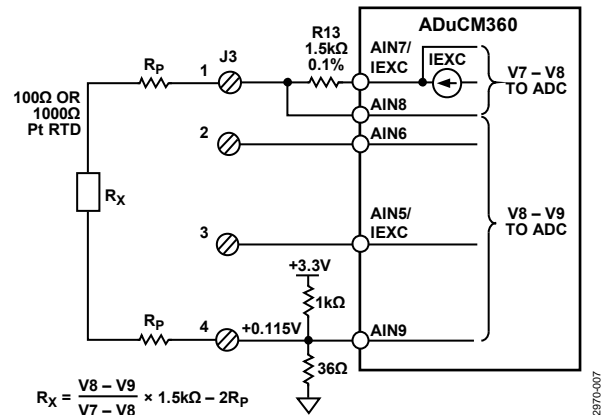

Figure 7. Configuration for 2-Wire RTD Connection
Figure 7 shows the 2-wire RTD configuration where there is no compensation for lead resistance.
- c. 2-wire RTD (see Figure 7): connect one RTD wire to J3 Pin 1 and the other wire to J3 Pin 4.